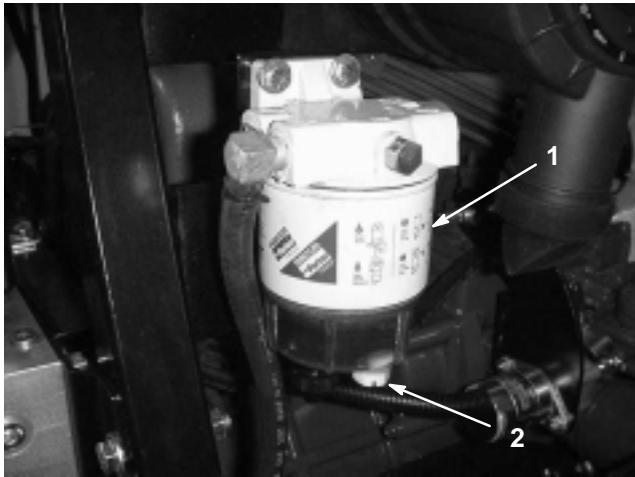

Figure 30
Drain water or other contaminants from the water separator (Fig. 30) daily.
2. Loosen the drain plug on the bottom of the filter canister (Fig. 30). Tighten the plug after draining.